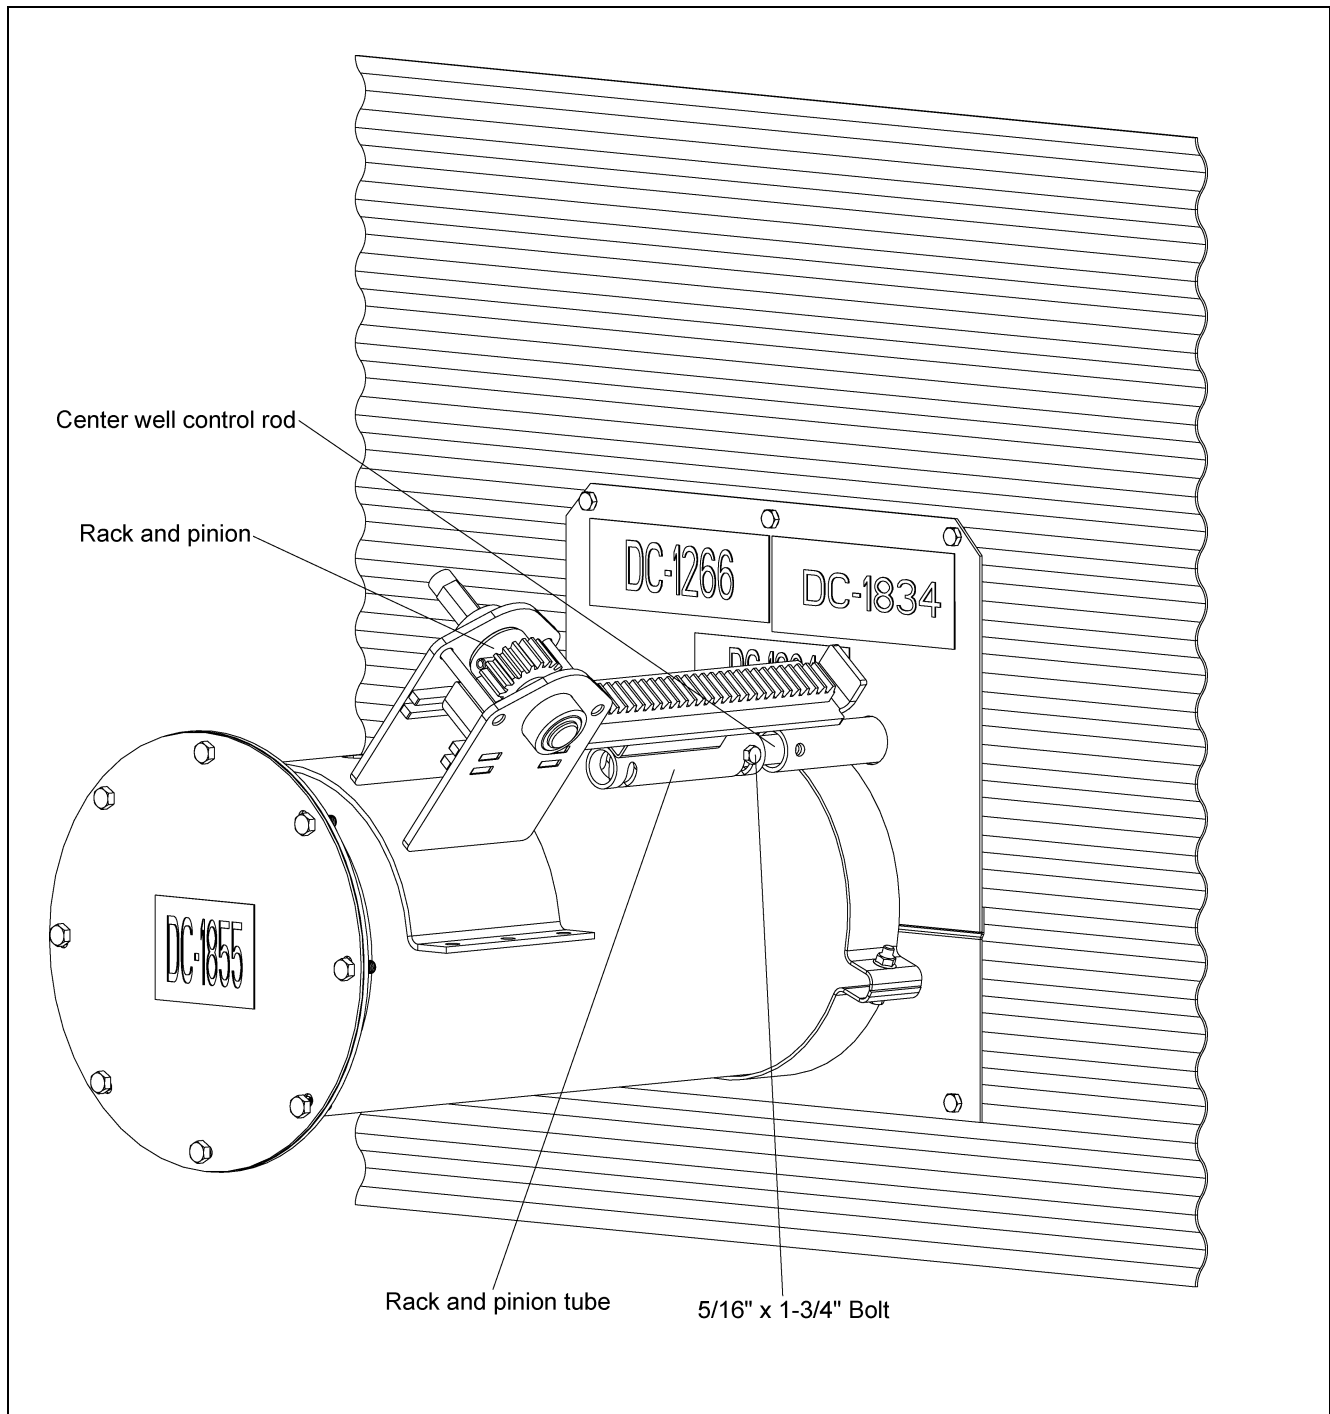

Figure 4P 8" and 10" Systems
2. Slip rack and pinion tube over center gate control rod and align holes, making sure rack and pinion is fully extended toward bin wall. *(See Figure 4P.)*
3. With rack and pinion resting on unload tube, and tube holes aligned, insert one 5/16" x 1-3/4" bolt through the rack and pinion tube and center gate control rod. Fasten together with a nut. *(See Figure 4P.)*